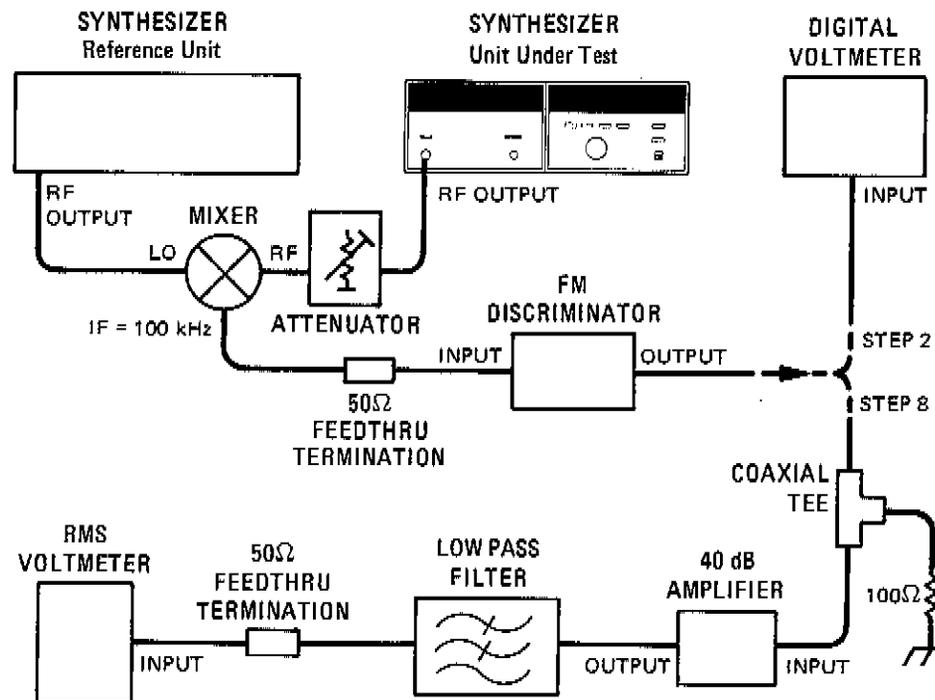

Figure 4-8. Residual FM in FM and CW Modes Test Setup
8. Connect the equipment as shown in Figure 4-8.